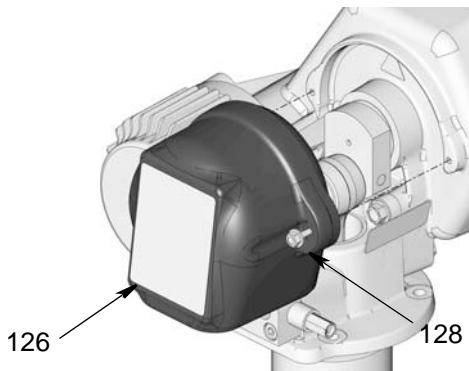

FIG. 52
27. Reinstall cover (126) using bolts (128). Use a wrench to tighten bolts securely (FIG. 52).